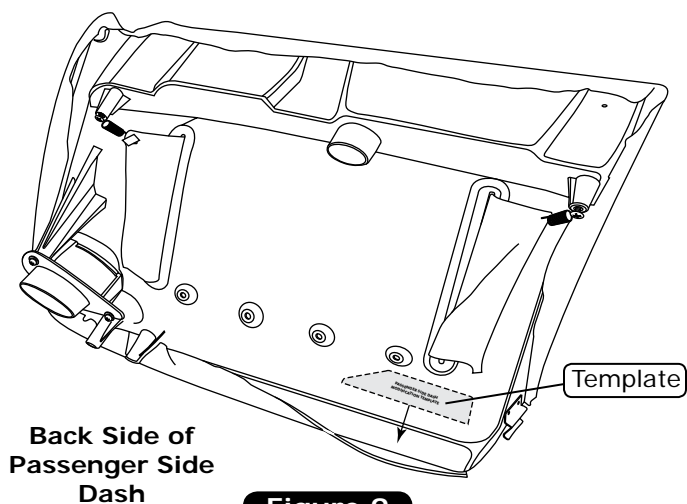

Figure 9
1. Align the template (provided on Page 29) on the back side of the passenger side dash as shown in Figure 9, below.